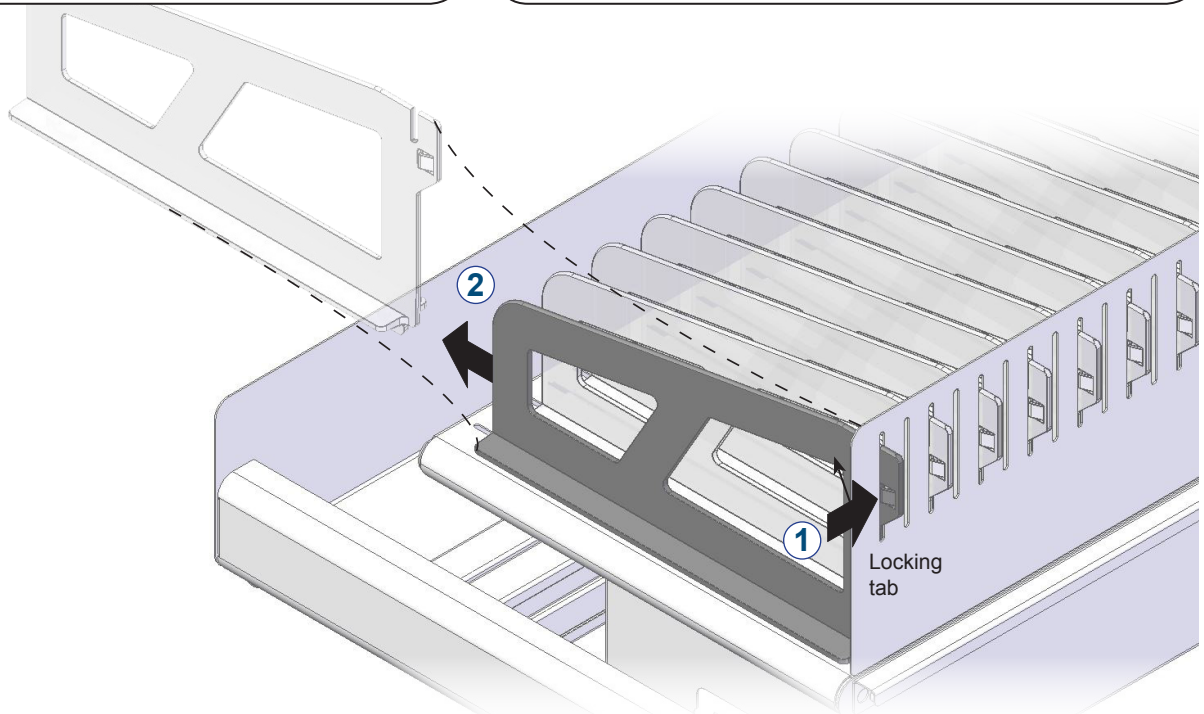

Figure 5
2. Lift divider out of slot. **Figure 5.**